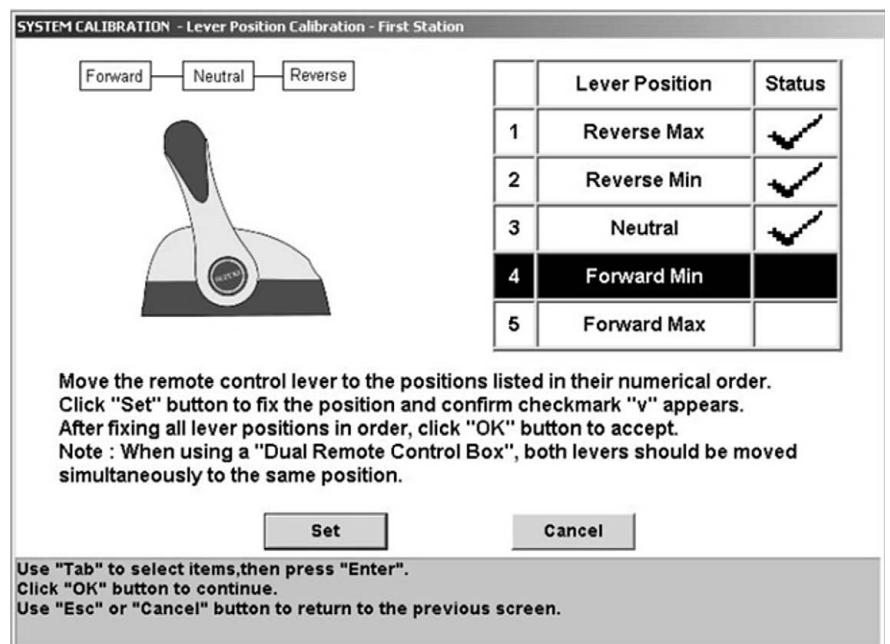

Figure 6-15. Control Head calibration.
5. Once each engine's position has been registered you will be prompted to calibrate the remote control lever positions. Using the main remote control, follow the on-screen instructions as seen in Figure 6-15.